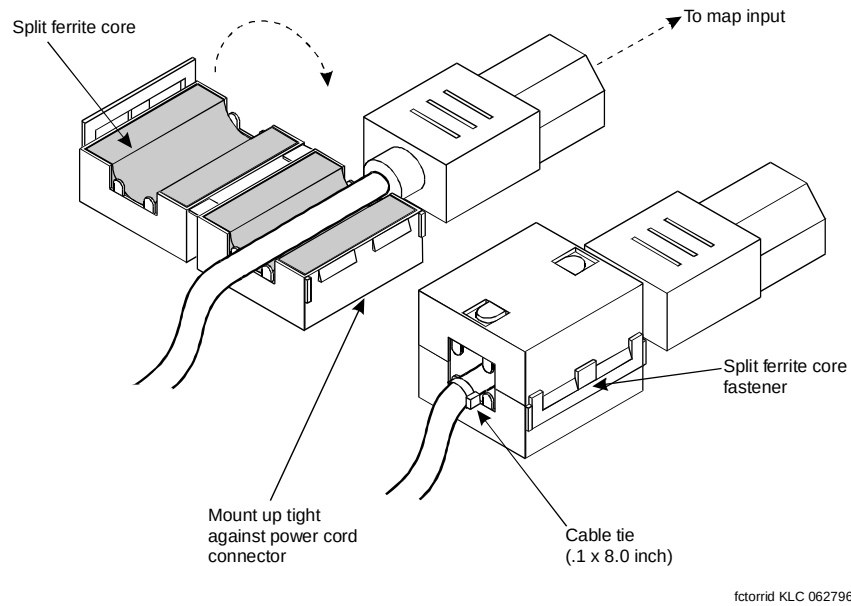
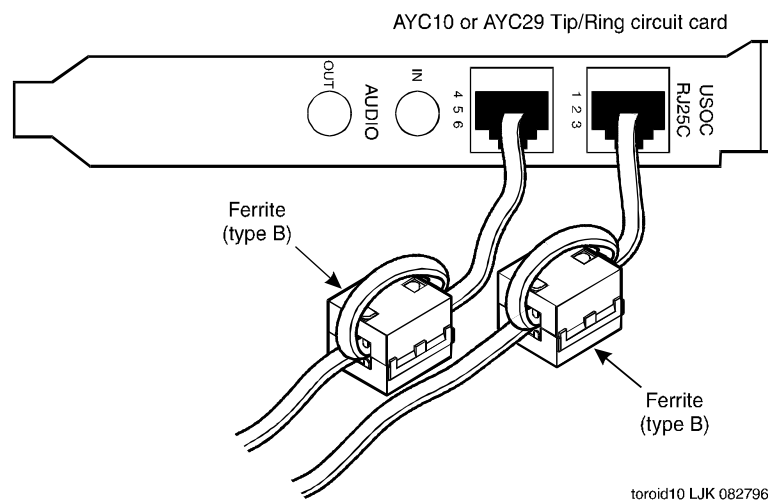

Figure 7-2. Example of a Ferrite (Type B) Installation
Figure 7-3. Example of a Ferrite (Type B) Installation
The following is the general ferrite installation procedure. Figure 7-2 and Figure 7-3 show different examples of ferrite installations.
5. Attach a large cable tie directly behind the ferrite to secure it. If the cable is installed looped through the ferrite, no cable tie is required (Figure 7-3).